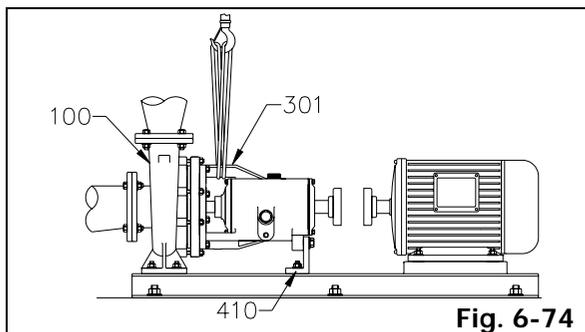

Fig. 6-74
5. Replace shims (if used) under support foot (410), install and tighten support foot (410) hold down bolts and nuts to baseplate (Fig. 6-74).